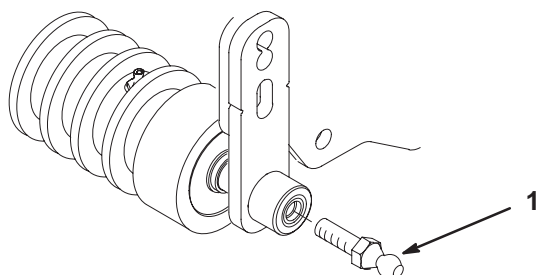

Figure 11
4. Thread a ball stud into each end of the cutting unit front roller (Fig. 11).